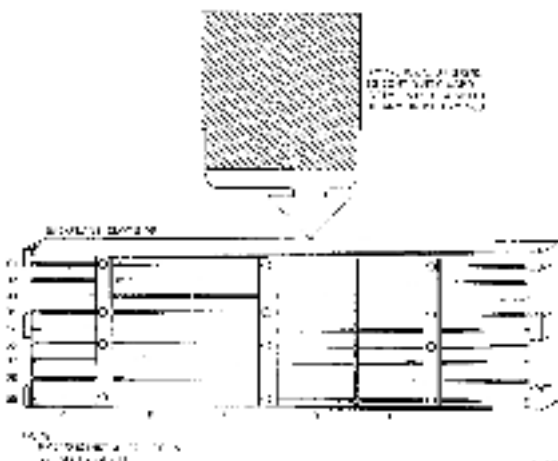

Fig. 2-7 Bus Grant Continuity Card
7. On the CPU backplane, remove the G1727 bus grant card from the desired SPC slot (Figure 2-7). A bus grant (continuity) card must be in connector D of any unused SPC slot. Otherwise, bus grant continuity will be lost.